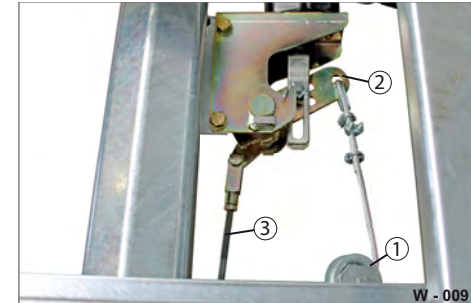

Fig. 12 Transfer mechanism
- ▶ Lubricate the guide pulley (Fig. 12/1) as well as friction and bearing points with grease.